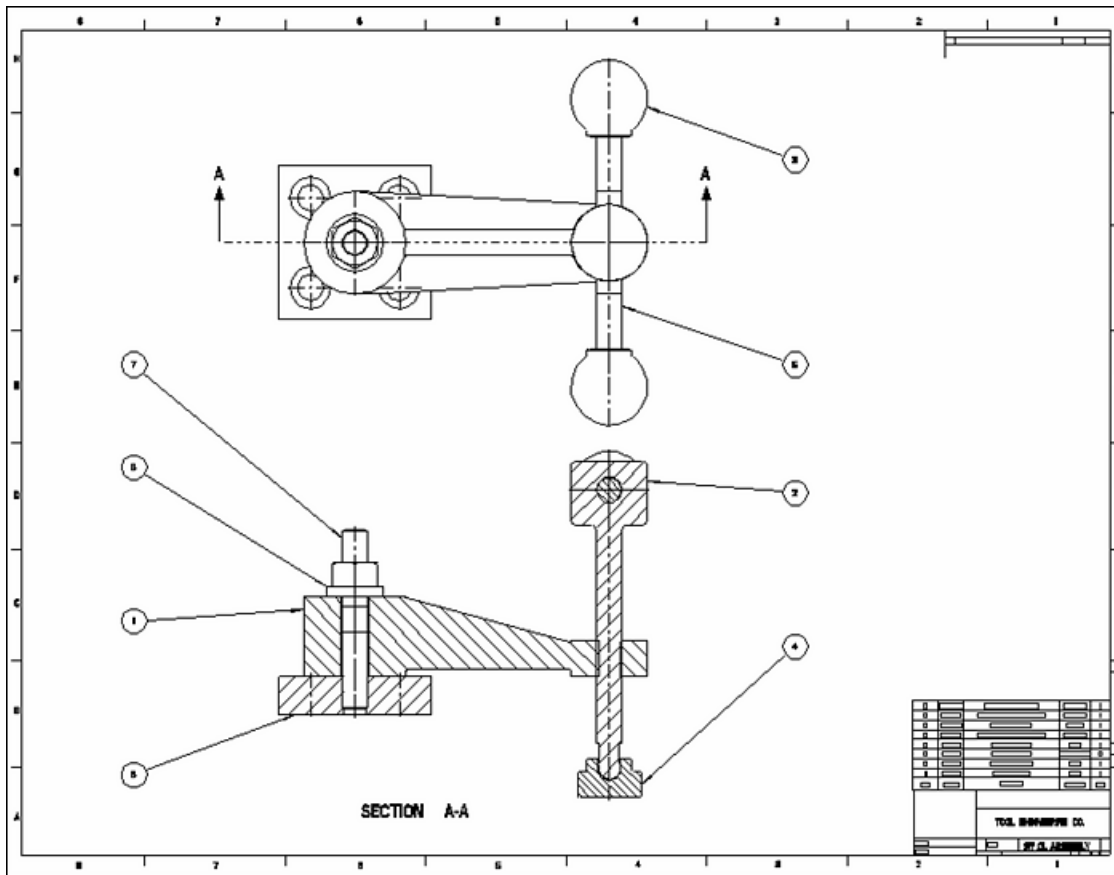

Figure 30 Ballooned Assembly Drawing
- Balloon components on an assembly drawing (Fig. 30)